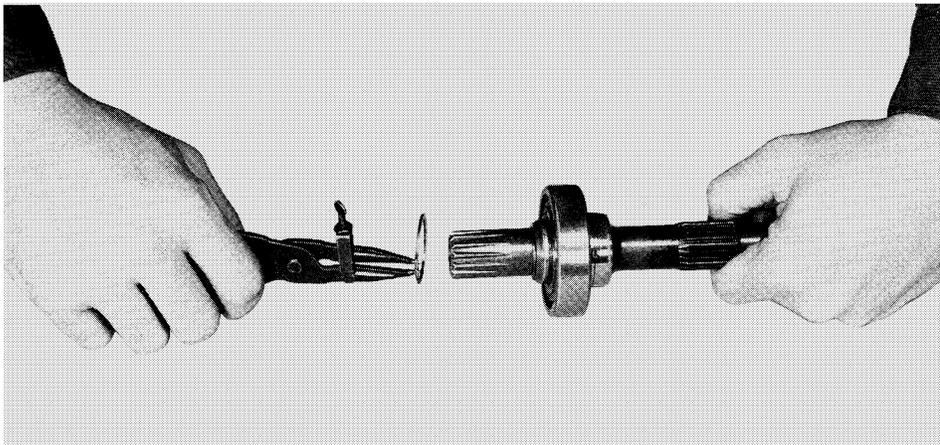

FIGURE 28
18. Now, using snap ring pliers, take off the snap ring. See Figure 28.